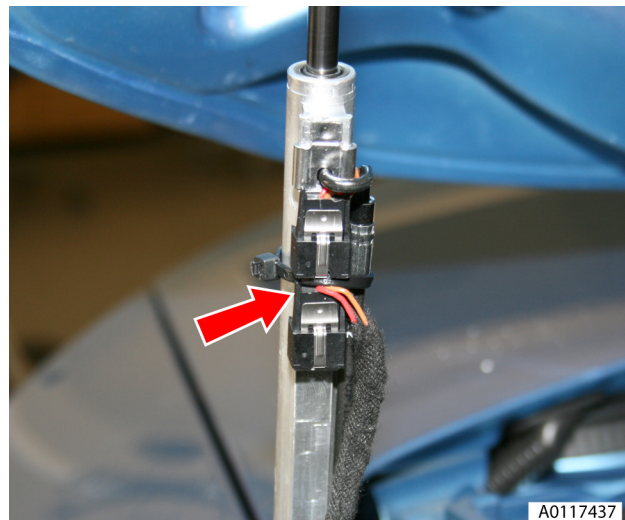

Fig. 17
34. Release clips securing hall effect sensors to cylinder, disconnect sensors and remove cylinder (see Fig. 17).